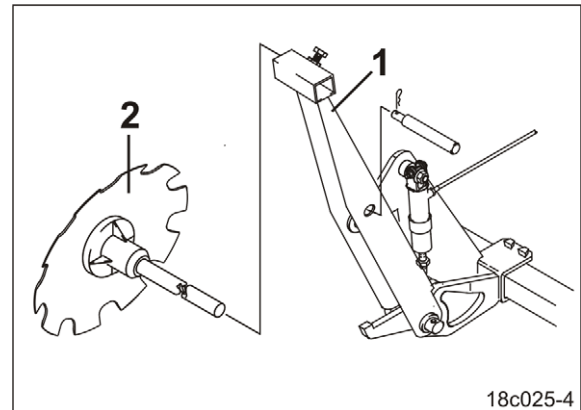

Fig. 166
16. Move the track disc carrier (Fig. 166/1) to the transport position (see section "Moving the track disc carrier of the tramline marker to the operational/transport position", on page 141).
17. Pull the track discs (Fig. 166/2) out of the track disc carriers and carry them with you in a suitable stowing space.